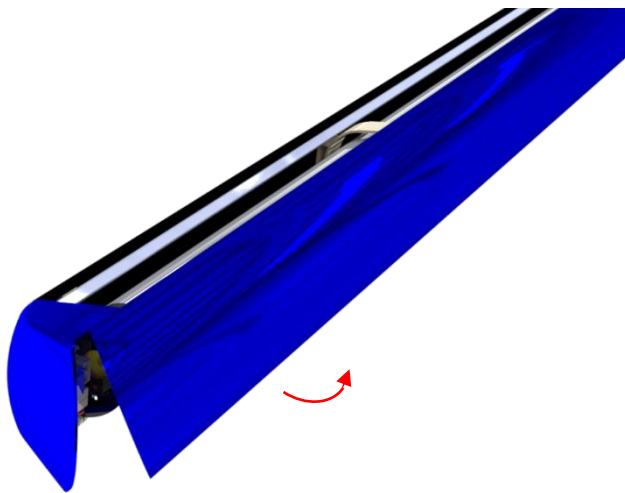

Figure 37: Audience left, front of unit, showing fascia tilted forward
2. Lift bottom of fascia through screen slot opening by pulling in an upwards motion towards the front of the case (see Figure 37).